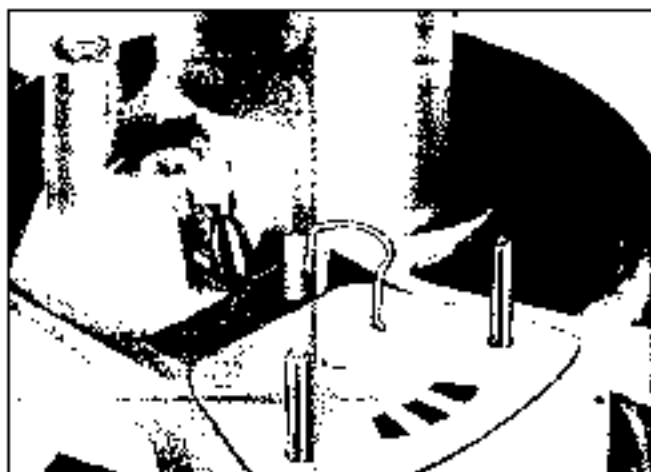

Fig. 4-21 Installing Valve Fender Spring in Boss
3. Install longer foot of valve tension spring in boss on first stage housing, being careful not to disturb spring (Fig. 4-21).